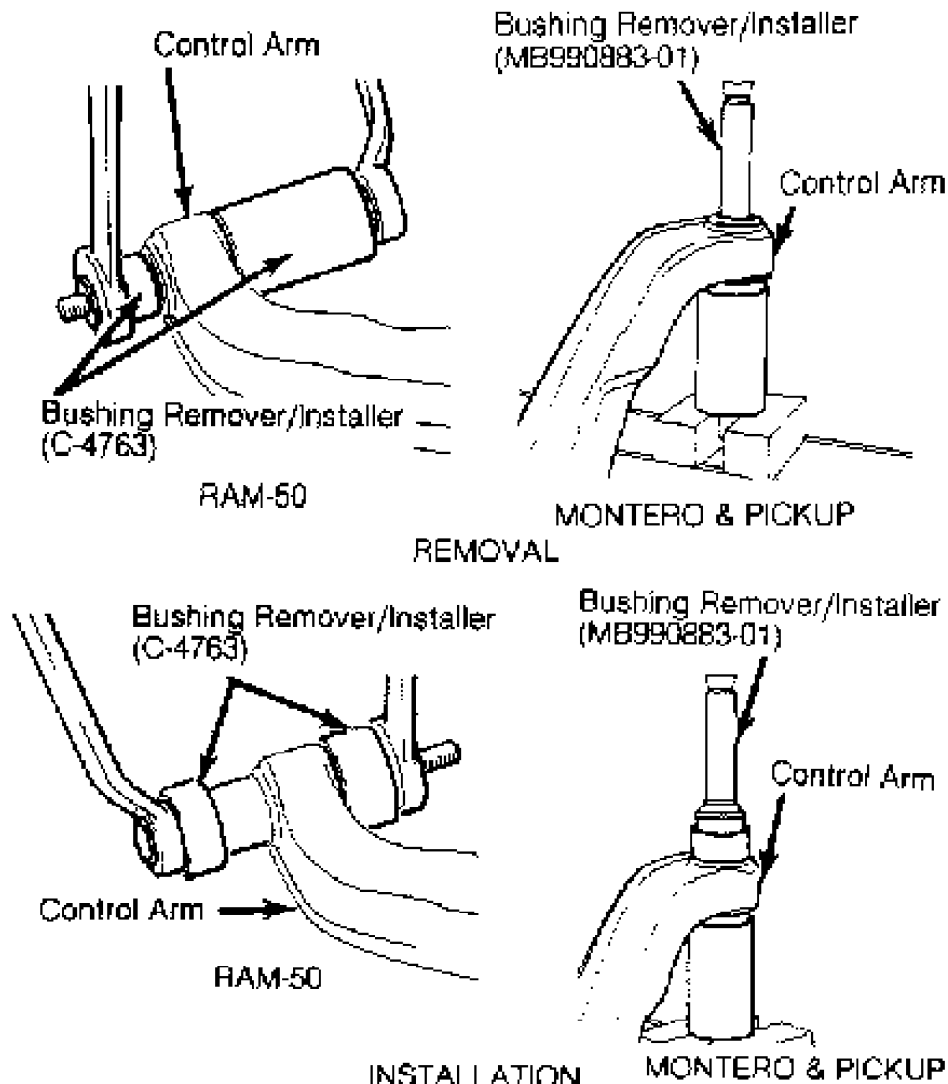

Fig. 4: Replacing Lower Control Arm Bushing
3) Use press and Bushing Remover/Installer (MB990883-01) if control arm bushing needs replacement. Press bushing from control arm. See Fig. 4.